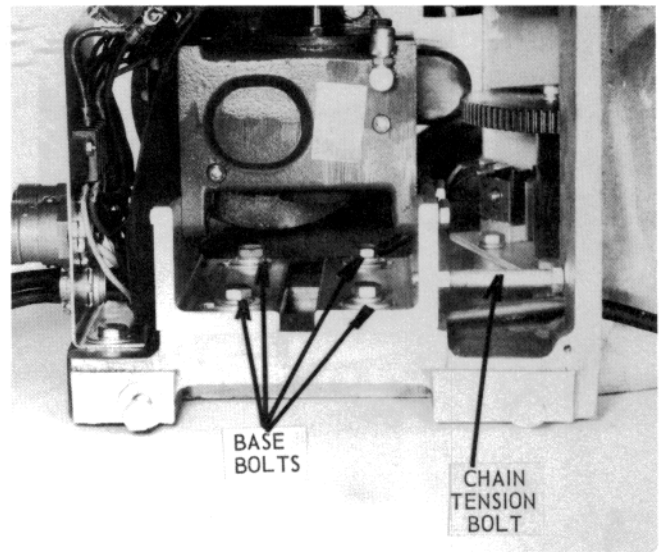

Figure 44 – Chain, Chain Tension Bolt, and Motor Mounting Base Bolts
- 2.1.4 Slacken the chain by loosening the four motor mounting base bolts and the chain tension bolt (see Figure 44).